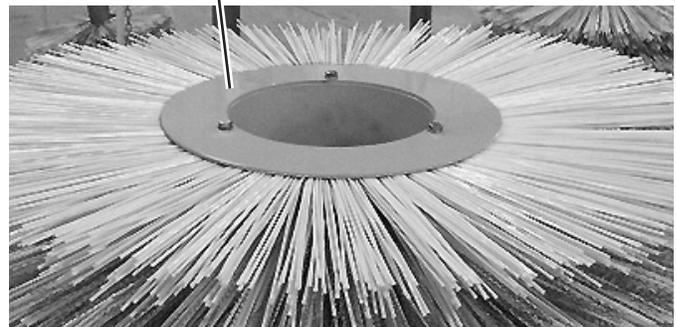

Figure 21
7. Stand the broom on end. Remove the retaining plate (Figure 21).